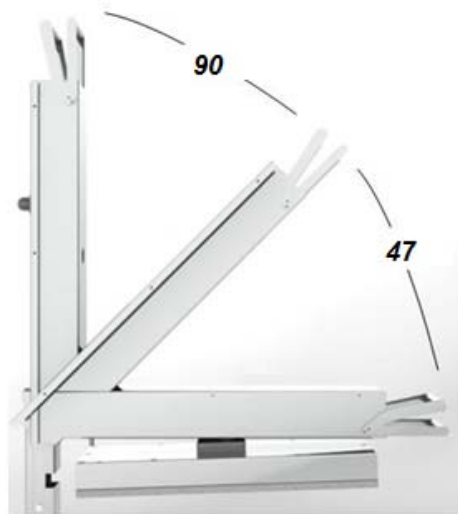

**Fig. 18**
20. Reinstall the tension rod cover and tighten screws. Fig. 18